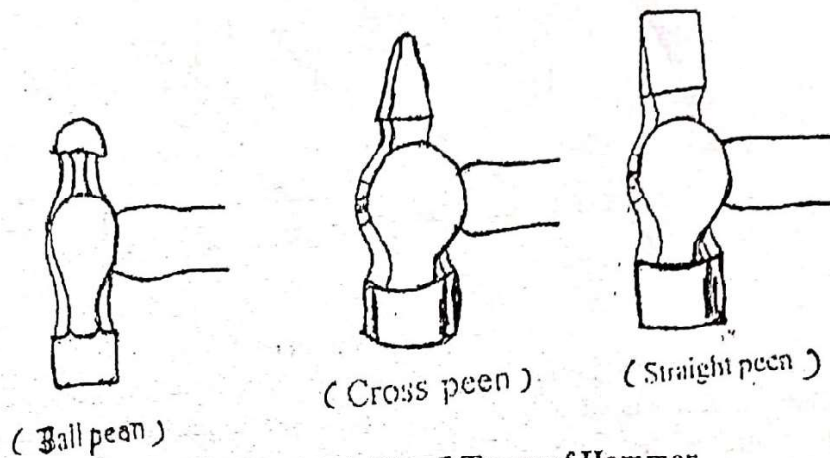

Fig: 7 Types of Hammer
**HAMMERS:-** Hammers are used to strike a job or a tool. Hammers are classified according to the shape of the pean, as Ball pean, Cross pean and Straight pean hammer shown in fig: 7.